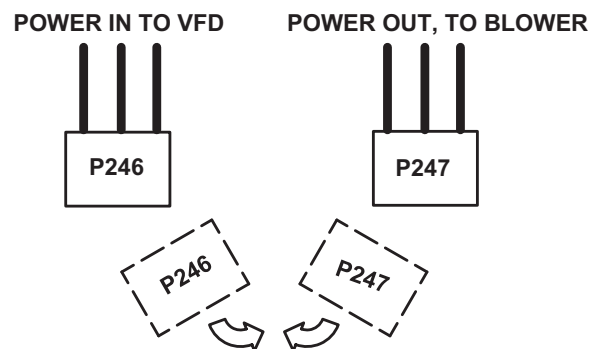

FIGURE 42
- 4 - Connect P246 to P247. See FIGURE 42.